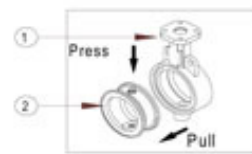

Fig 8.3
8.1.7 Compress the seat as shown and pull it out from the body (Refer to the fig 8.3).